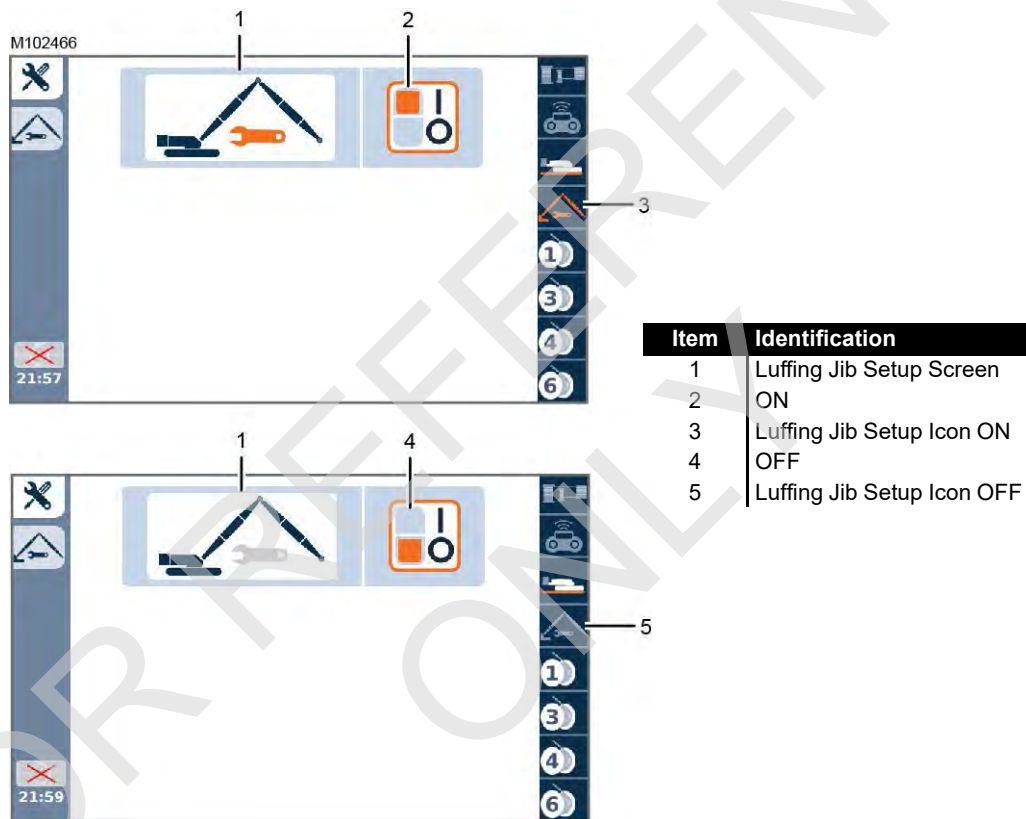

FIGURE 3-5
1. Go to the Luffing Jib Setup Screen (1) in the Main Display (Figure 3-5).